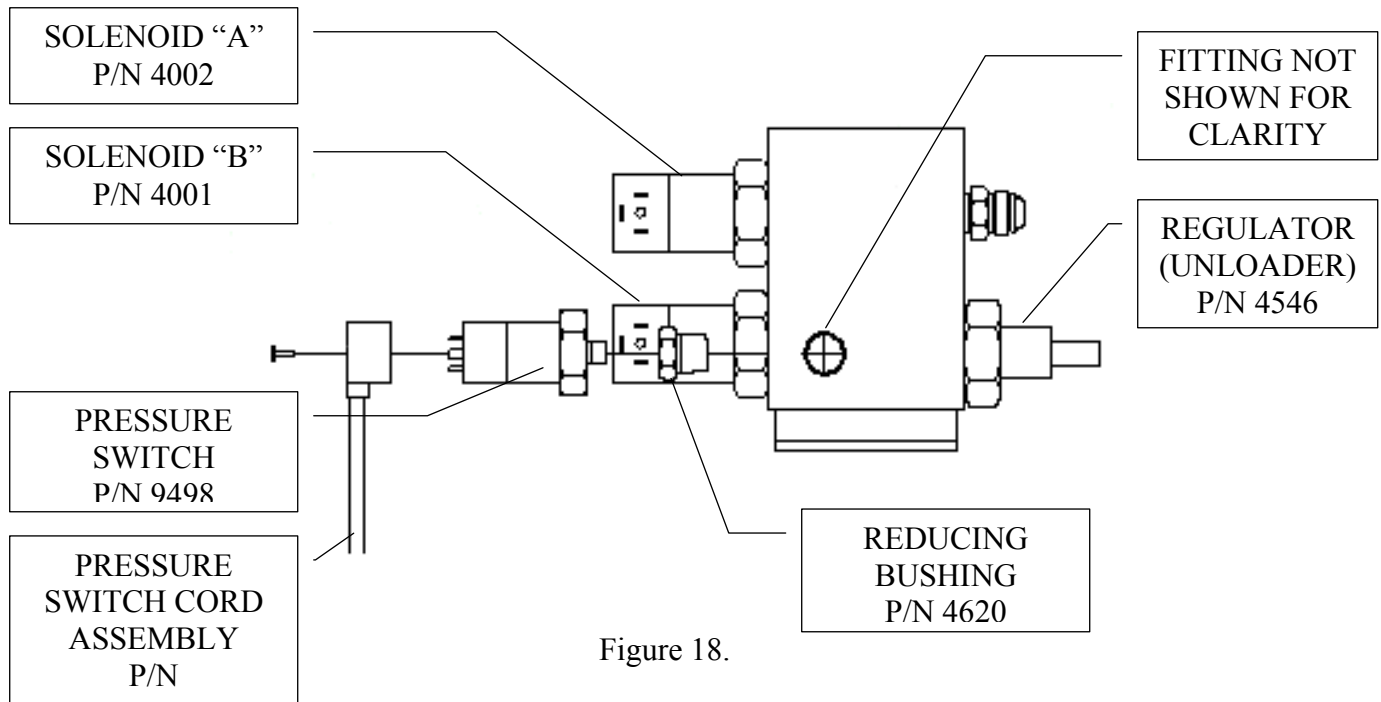

Figure 18.
19.5. For units with pressure switch: Refer to Figure 18.
19.5.3. Remove 1/2" x 1/8" reducing bushing. See Figure 18.